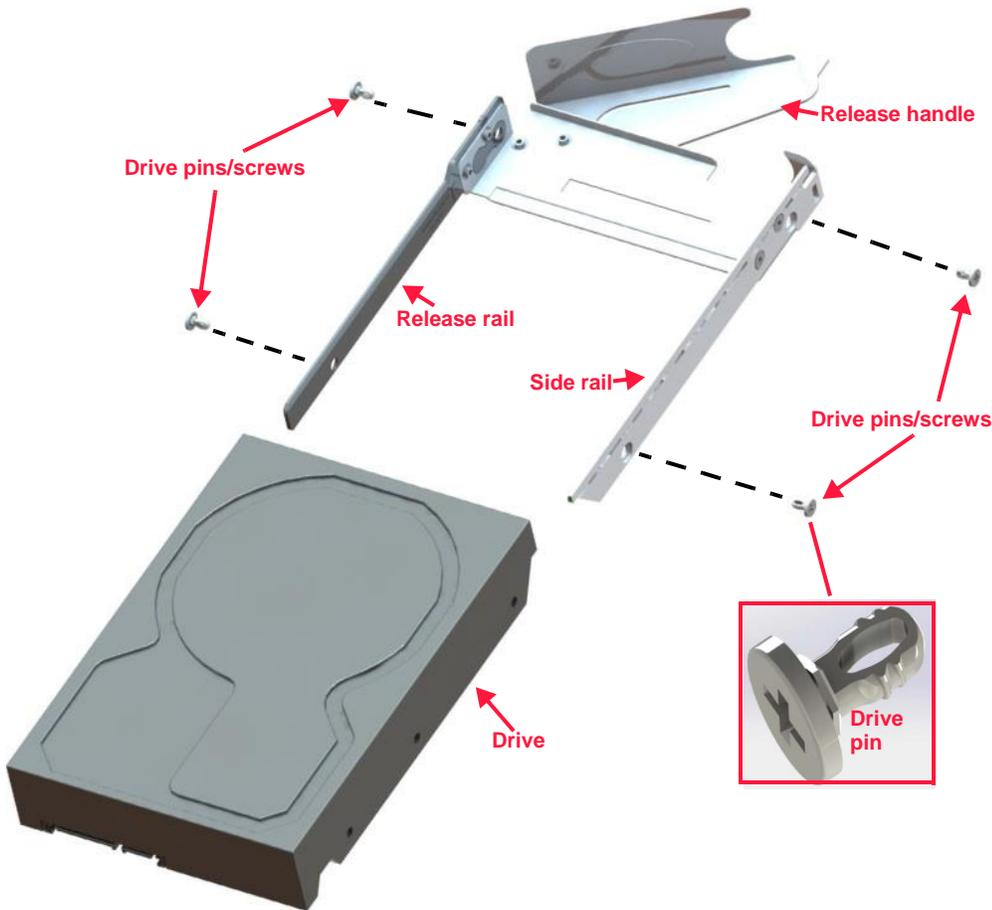

Figure 6.11 Drive carrier assembly components
1. Using a Phillips screwdriver, remove the two drive pins or Phillips screws that secure the side rail to the drive. The drive pins are shown in Figure 6.11.